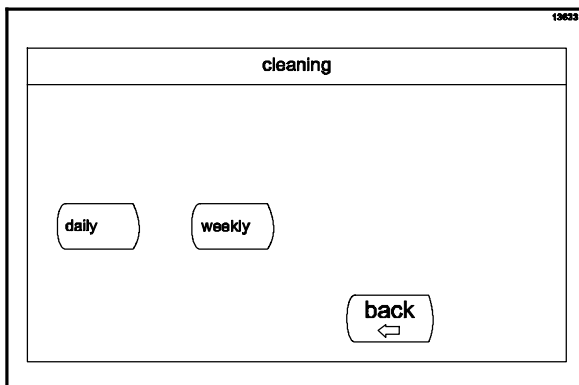

Figure 63
3. Press the WEEKLY key. (See Figure 63.)